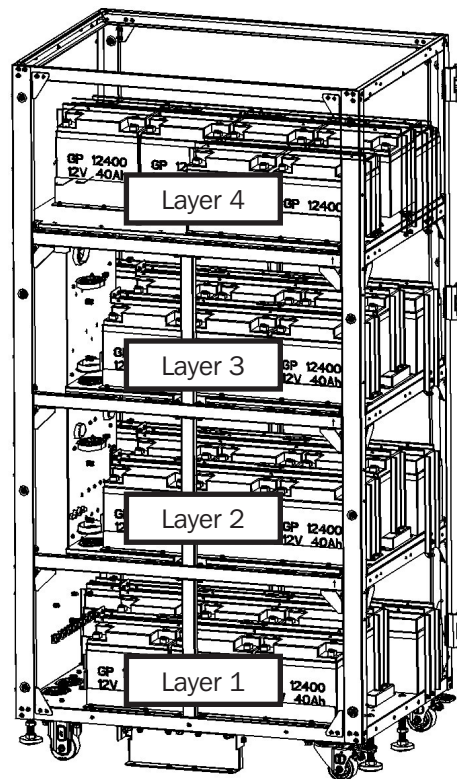

Figure 5-50A (front view)
11. Reinstall battery retention brackets and screws in layer 4 (Figures 5-50A and 5-50B).